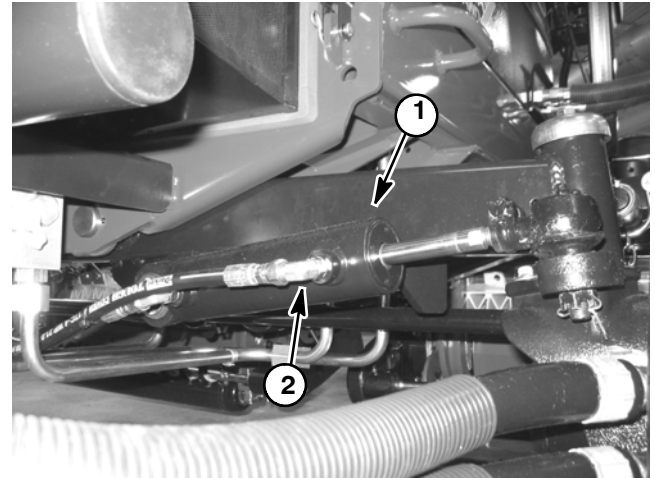

Figure 53
4. Thoroughly clean the area around the hydraulic hose at the rod end of the steering cylinder (Fig. 53).